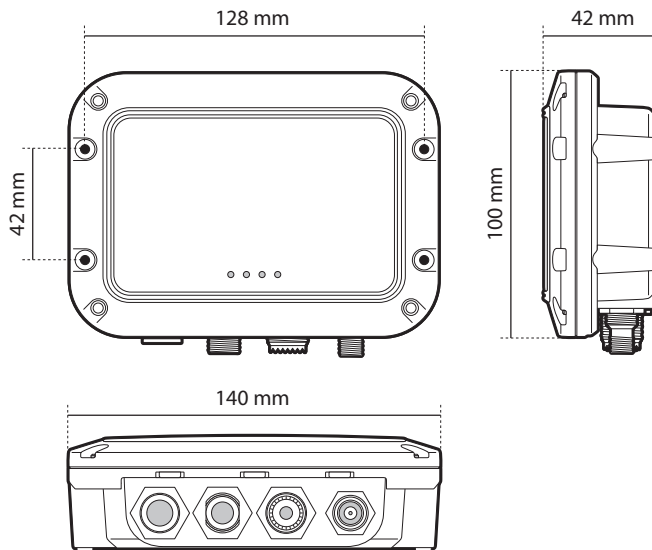

Figure 6 AIS transceiver dimensions
- There should be adequate space around the AIS transceiver for routing of cables. See Section Figure 6 for details of the AIS transceiver dimensions.